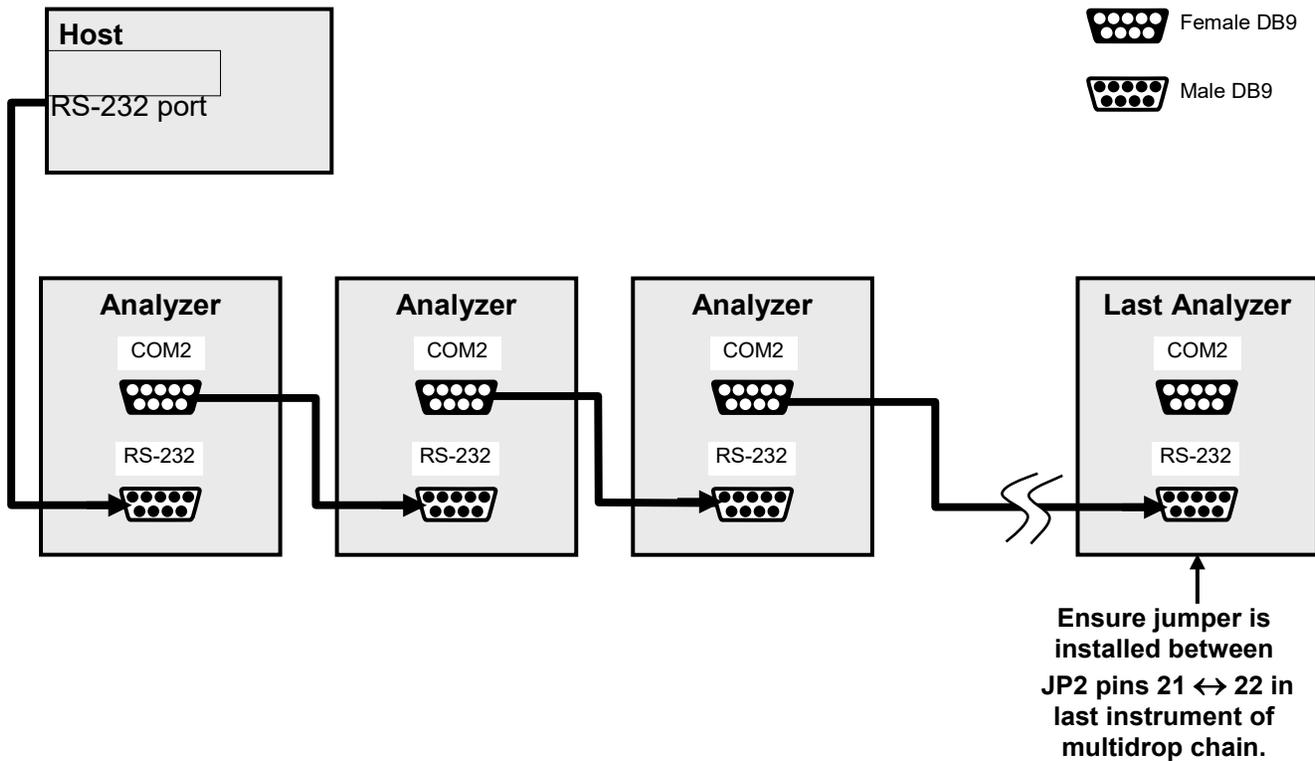

**Figure 2-17. Jumper and Cables for Multidrop Mode**
In each instrument with the Multidrop option there is a shunt jumpering two pins on the serial Multidrop and LVDS printed circuit assembly (PCA), as shown in Figure 2-17. This shunt must be removed from all instruments except that designated as last in the multidrop chain, which must remain terminated. This requires powering off and opening each instrument and making the following adjustments:
2. On the Multidrop/LVDS PCA's JP2 connector, remove the shunt that jumpers Pins 21 ↔ 22 as indicated in Figure 2-17. (Do this for all but the last instrument in the chain where the shunt should remain at Pins 21 ↔ 22).
3. Check that the following cable connections are made in all instruments (again refer to Figure 2-17):